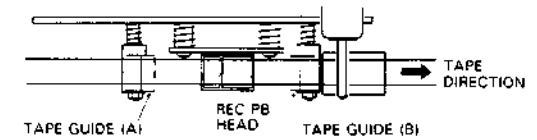

Fig. 5-2.
- 2) Adjust the tape guide (A) so that the parts of the erase head coming out of both sides of the tape (A and A') in Fig. 5-2 will be equal. For the adjustment, use the adjustment nut (A).
- 3) Adjust the tape guide (B) so that the tape runs smoothly and is not hitched by the tape guide. For the adjustment, use the adjustment nut (B).
- 4) After adjustment, paint-lock the adjustment nuts (A) and (B).